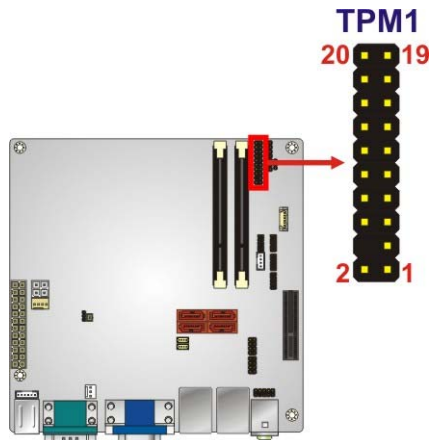

Figure 3-19: TPM Connector Location
- CN Location:** See **Figure 3-19**